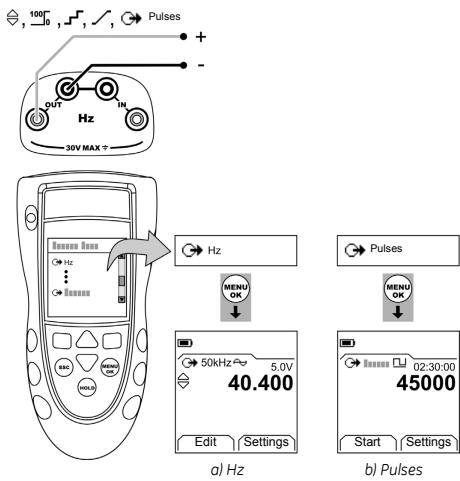

Figure 2: Example configuration - To supply Hz or Pulses
1. Connect the instrument (Figure 2) and, if necessary, adjust the Set Up (Table 1).